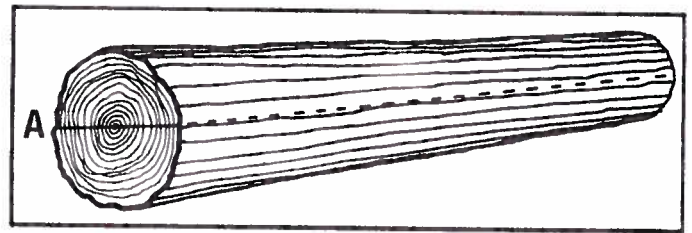

Fig. 35
To make square lumber from a round log, reference points must first be established in order to calculate your milling patterns. Milling to the heart center (A) on either straight or tapered logs, as shown in Fig. 35 and 36 will produce the most straight-grained boards per log.